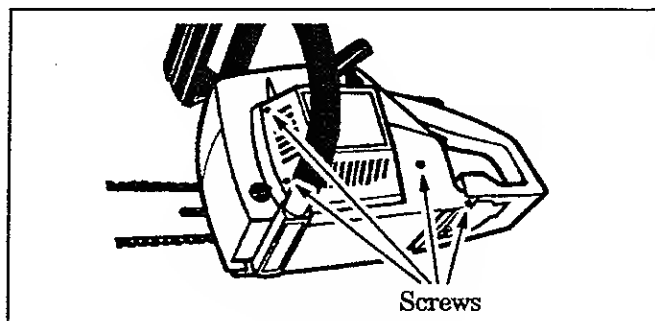

Figure 34
1. Remove the four screws shown in Figure 34, one of which is underneath the rear handle. Then, remove the screw located on the rear of the engine housing below the START/STOP switch.